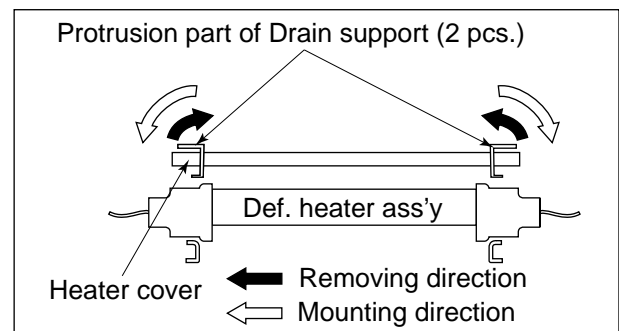

Fig. A-26
2. Raise the protrusion part of Drain support AL (Fig. A-26). Then remove Heater cover.